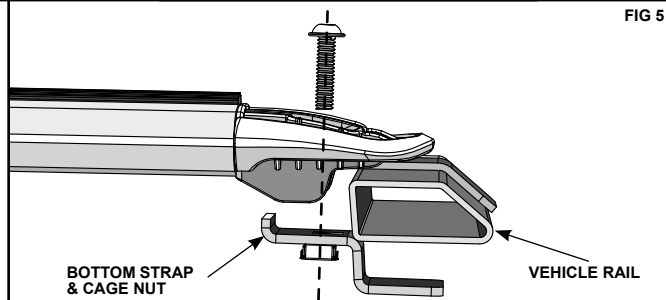

FIG 5
6. Place Bottom Strap under the Top Strap with the Tab facing inward and upward (Fig. 5). While holding the Bottom Strap in place loosely fit the longer 25mm Star Head Bolt with Key provided. Fit each corner in this manner. Check that the Cross Bars are centrally located between the vehicles Rail Bars.